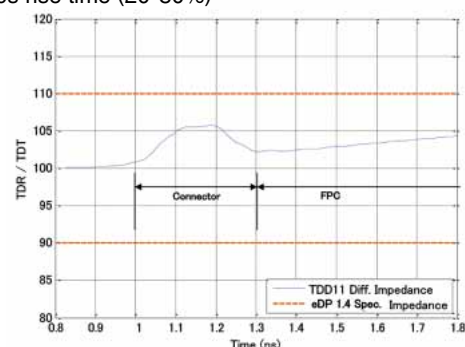

Fig.4
- Supports high speed transmission with excellent impedance properties. By making a differential pair with the same type of contacts (even number-even number of contacts, odd number-odd-number of contacts) excellent transmission characteristics are achieved, supporting eDP (ver1.4), MIPI (D-PHY) and USB3.0 standards. (Fig.4)